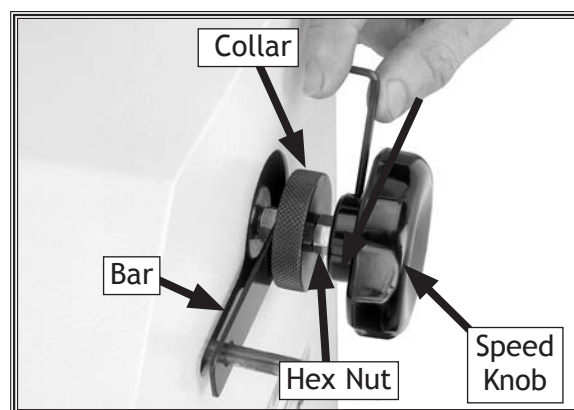

Figure 33. Removing feed motor cover.
1. Remove the variable speed knob, the hex nut, knurled collar, and the four button head screws securing the feed motor cover (see Figure 33).